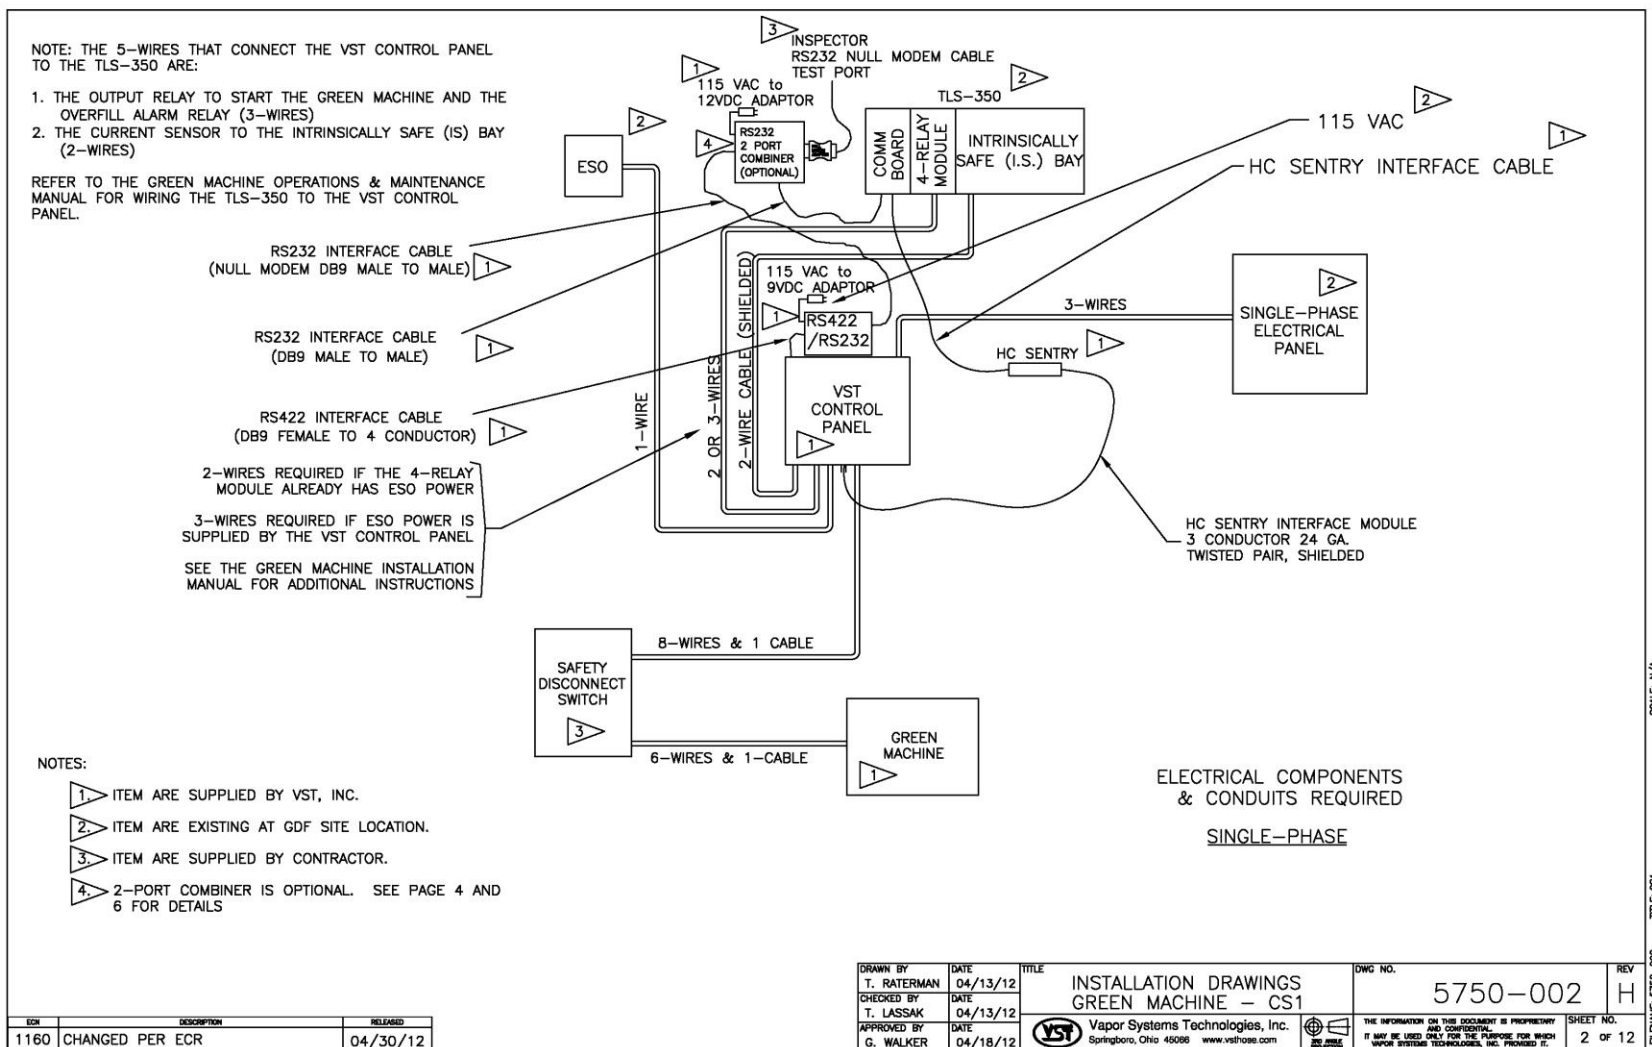

Figure 15: VST Control Panel Wiring Diagram
- **See Figures: 15 & 24**
- **See Figures 15 & 20**
- **See Figures 15 & 21**
- **See Figures 15 & 23**